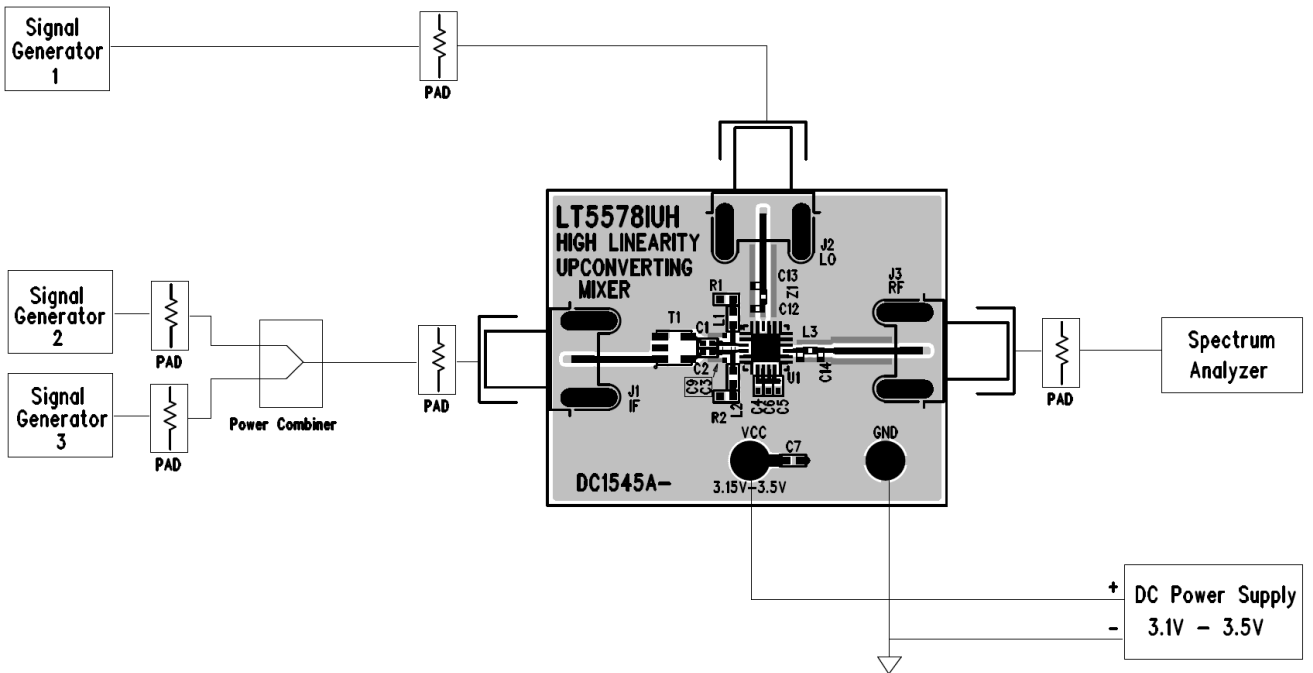

Figure 6. Proper Equipment Setup for Two-tone RF Measurements
1. Connect all test equipment as shown in Figure 6.